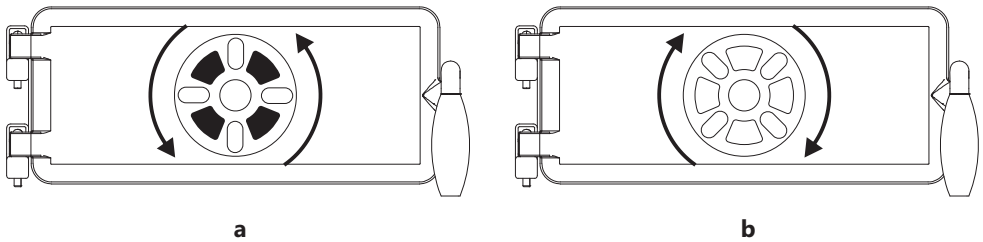

Figure 3
Set the primary air regulator (Figure 1 pos. 14) in open position (Figure 3-a) during ignition and keep it in that position until the cooker is in stable operation after inserting larger pieces of wood or coal. Then set the regulator in the closed position (when burning wood and wood briquettes - Figure 3-b) and keep it in that position while the cooker is in operation.